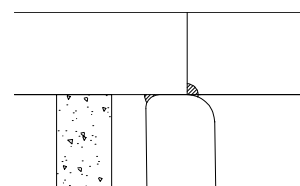

Fig 2.
Note: if the cut out is adjusted to either overhang or step back from the sink rim sufficient surface area must be left to allow a watertight seal, fig. 2 shows the cut-out flush to the bowl radius.
8. Gently lay the worksurface onto the sink, carefully align the sink rim with the cut-out shape with equal spacing on all sides (fig 2).